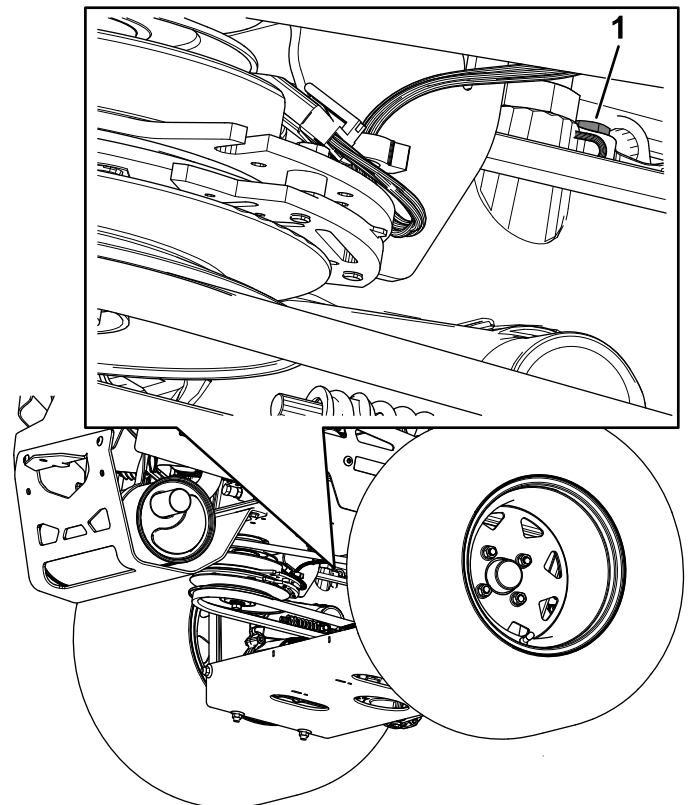

Figure 93
- **For ZT 5400 Hydros**, use a 7/16-inch wrench to access the vent plug from underneath the machine (Figure 93).